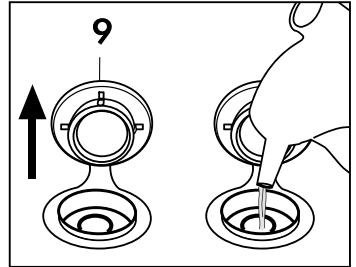

Fig. 7
Open the water fill cap (9) by hand; turn the bottle upside down with the top over the boiler hole and empty the contents of the bottle into the boiler. When the tank is full, close the cap (9) (Fig. 7)